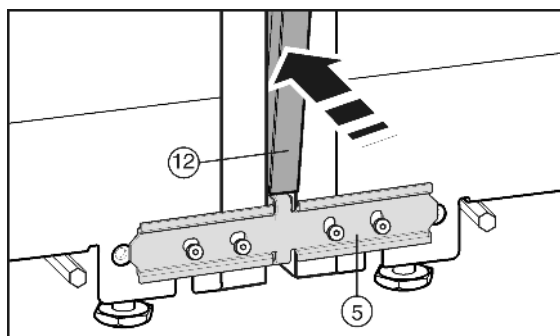

Fig. 9
Before fitting the cover strip Fig. 9 (12), press the two bars together along the whole length. That makes it easier to insert the strip into the gap. Use a soft cloth to press the strip into place to avoid making dents in the surface. Carefully press the strip into the gap, keeping it straight, to achieve an optimal joint.
- On the front, press the long cover strip Fig. 9 (12) into the vertical gap. Make sure the strip sits on top of the joining plate Fig. 9 (5).